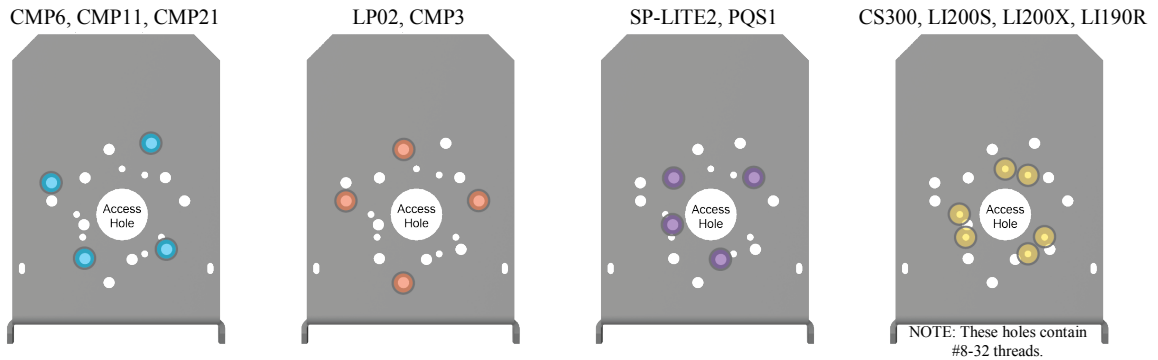

FIGURE 6-2. Mounting hole locations for solar sensors.
2. Secure the solar radiation sensor to the mounting bracket. Refer to FIGURE 6-2 to determine which mounting holes are used by the sensor. Visually inspect the leveling feet on the sensor (if present) to ensure all feet are in contact with the mounting bracket.